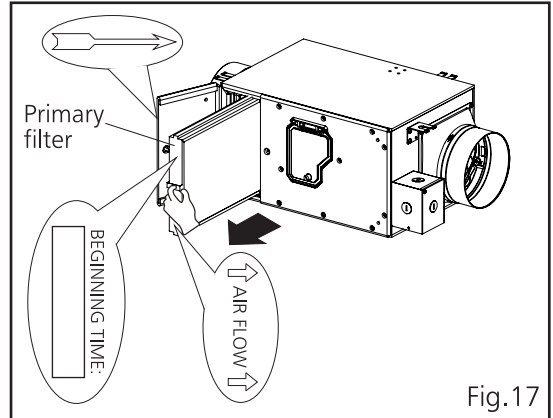

Fig.17
3. Pull out the primary filter, clean it with vacuum cleaner once in 3 months when filter indicator lights on with buzzer sound. Replace it once in 6 months when filter indicator lights on with buzzer sound. (Fig.17)
4. Reinstall the filters and close the maintenance board by turning the hand screw clockwise. Please make sure that the arrow direction on primary filter is same as the "Air flow" mark on name plate. (Fig.17)